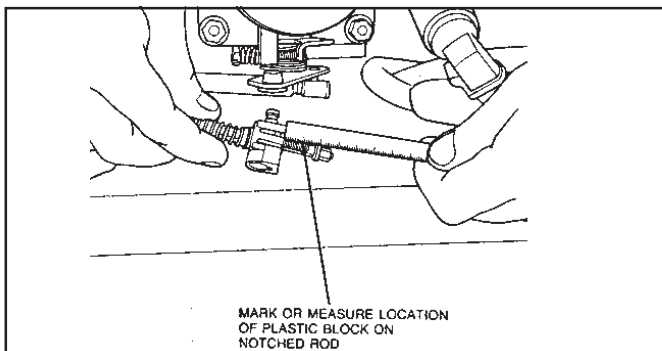

Figure 26
- 7.10 Mark or measure location of plastic block on notched rod. **(See Fig. 26.)**